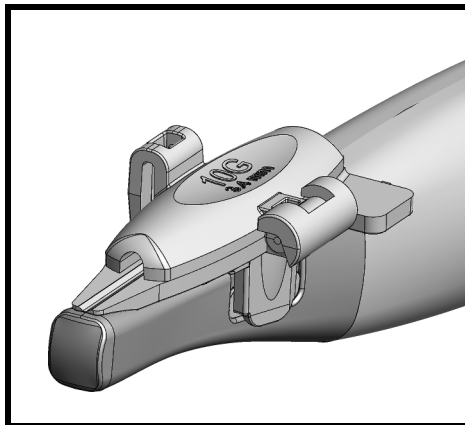

Figure 4. UA1346 mounted on transducer (shown here without transducer cover).
- 7 Fig. 4 shows the needle guide mounted on the transducer.